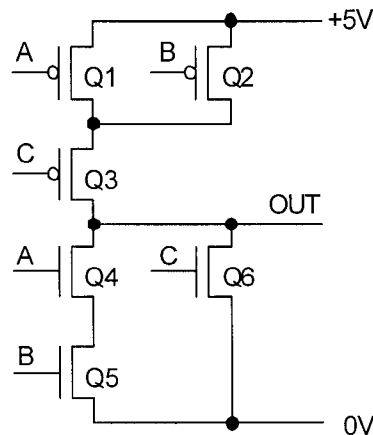

Figure 1.1
1. Figure 1.1 shows the circuit of a CMOS gate. The on-resistance of the n-channel and p-channel transistors is $100/W$ and $200/W$ ohms respectively where W represents the transistor width in arbitrary units. The width of transistor Q1 is denoted by W_1 , etc.